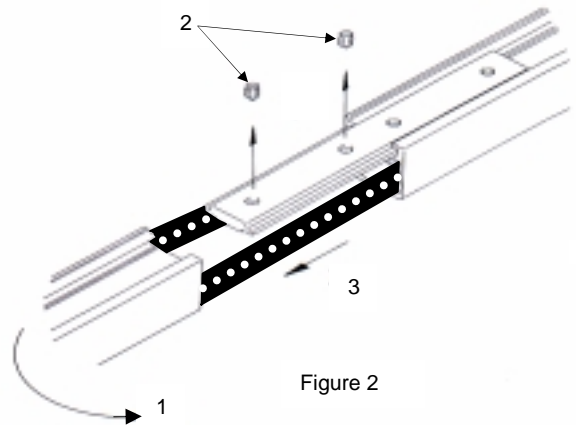

Figure 2
2. Assembly of Track, (See Figure 2,)
Step #3, Slide the track sections together, (See Figure 2.)